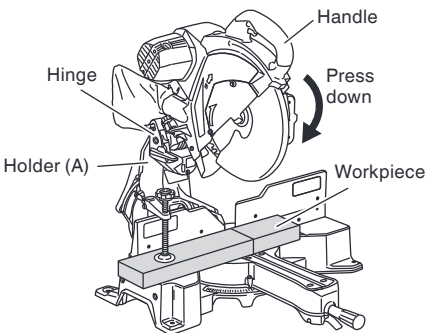

Fig. 25
Slide the hinge down to holder (A), then tighten the slide securing knob (see Fig. 2) as indicated in Fig. 25